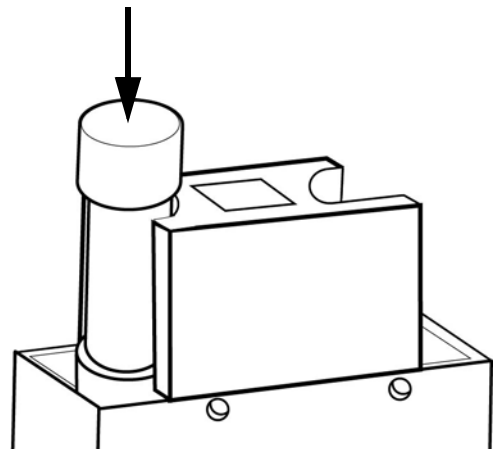

FIG. 11
- c. Gently push down on the top silver fuse cap to securely hold the fuse in the seat as shown in FIG. 11.